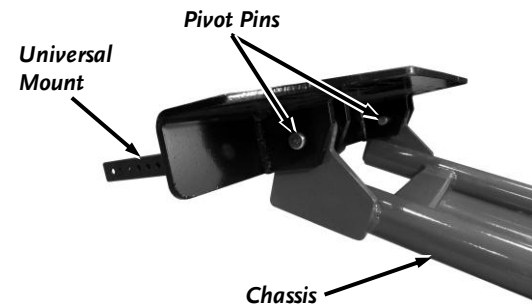

Figure 8
- Temporarily attach the Universal Mount to the Chassis using the two Pivot Pins (Figure 8).